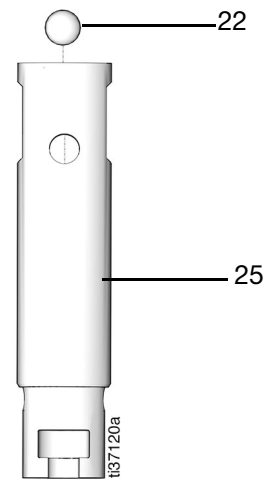

FIG. 56
- Place the ball (22) back into the pump piston (25) (FIG. 56).